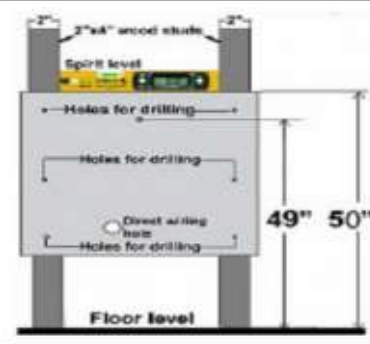

Figure 11: Mark and drill 6 mounting holes using 4mm or 5/32" wood drill bit.
- Place the template on the wall aligning centre of the 2 x 2"x4" wood studs as shown in Figure 11.
- Ensure the level of the template using spirit level as shown in Figure 11.